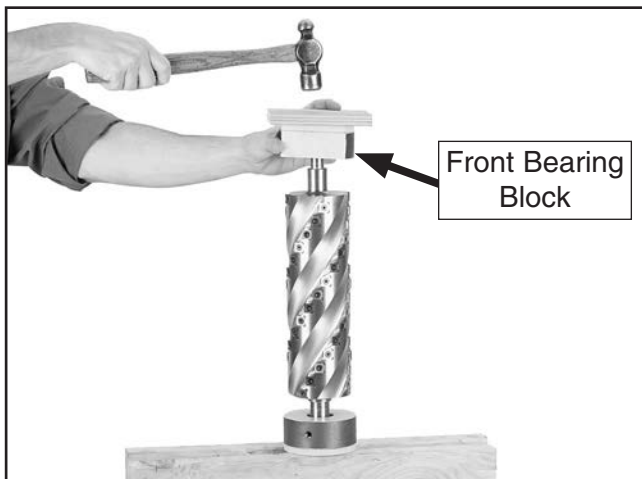

Figure 17. Reinstalling front bearing block.
- Use a hammer and a scrap piece of wood to seat the front bearing block onto the cutterhead shaft, as shown in **Figure 17**. Tap the front bearing block until it meets resistance.